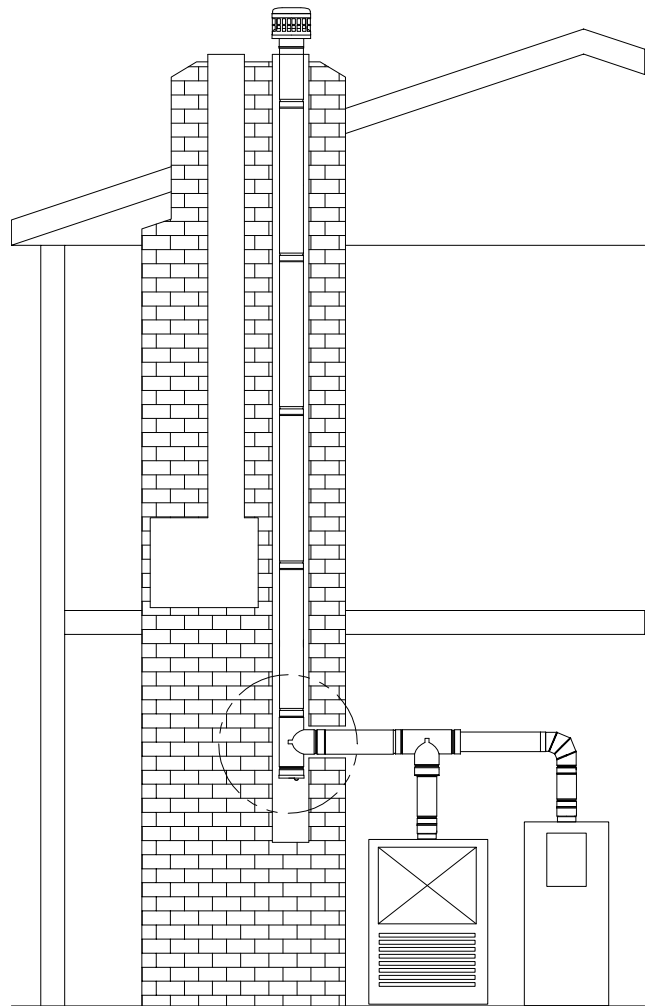

FIG. 5
3. Cut a large enough hole out of the side of the masonry chimney for a capped tee (PT) to be used at the base of the masonry chimney. Support the tee by drilling holes to place 2 each 3/8" minimum rods into the tile liner to support the tee. (See Fig. 5).
5. Use a Wall Thimble (WT) for all penetrations through combustible walls (See Fig. 5). Refer to **TABLE 2** for minimum opening size to install Wall thimble.